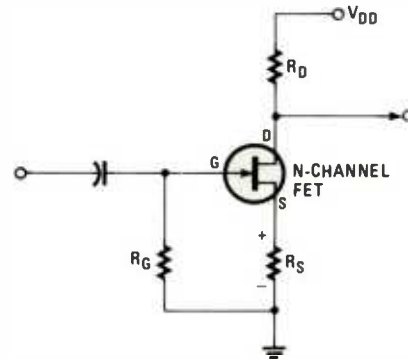

Fig. 10—This is the basic form of the field-effect transistor amplifier.
28. (low) Field-effect transistors (FET's) can also be used to create single-stage amplifiers like those we have discussed. A typical circuit is shown in Fig. 10. A depletion-mode FET is
30. (high) Single-stage FET amplifiers such as the one shown in Fig. 10 have a voltage gain in the range of 10 to 30.